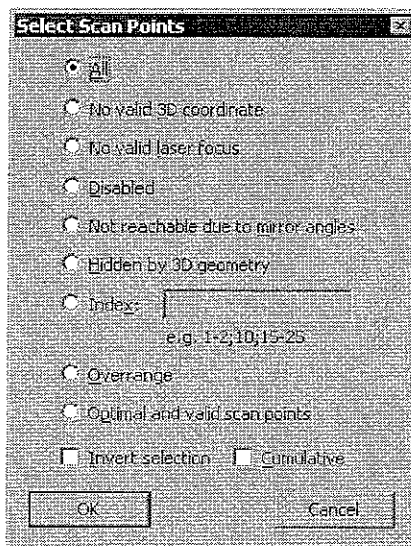

Figure 5.6: Dialog Select Scan Points
2. Click the object with the right mouse button and select Select Points from the pop-up menu. The dialog Select Scan Points appears (refer to figure 5.6).